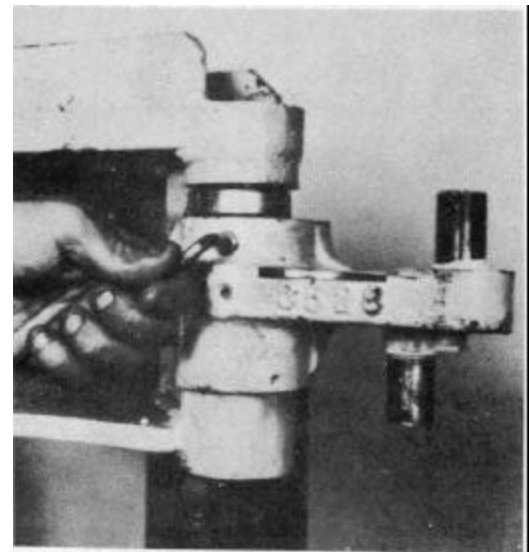

Figure 5-84
4. Remove the king pin from the spindle bore (Fig. 5-84).